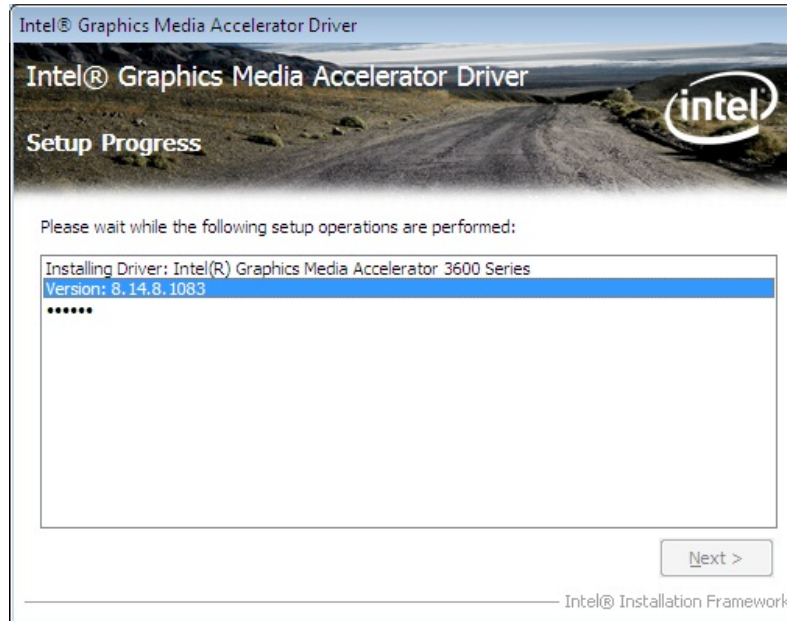

Figure 6-11: VGA Driver Setup Operations
Step 12: Setup Operations are performed as shown in **Figure 6-11**.